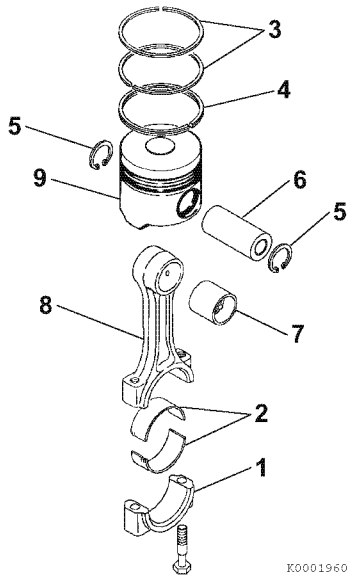

Figure 6-82
2. If removed, install a new wrist pin bushing (**Figure 6-82, (7)**) using a press and the appropriate service tool. Be sure to align the oil holes.
3. Reinstall one circlip (Figure 6-82, (5)) into the piston. Ensure the circlip is securely seated in the groove.